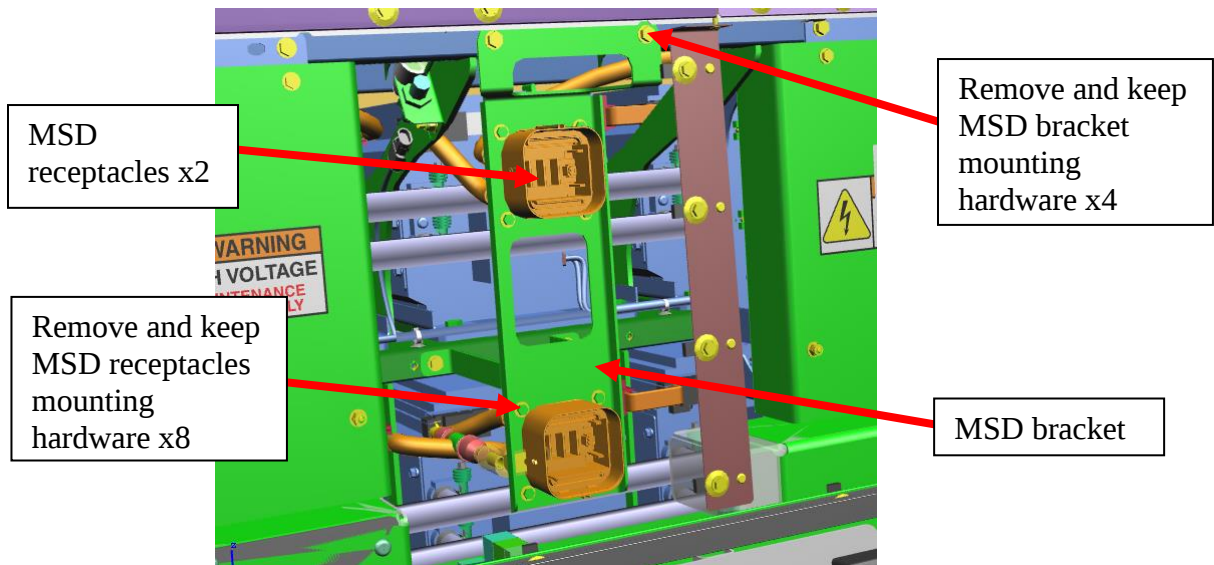

Figure 13: Rear ESS MSD Receptacles and bracket
4.1 Remove and discard MSD receptacles x2 and MSD bracket x2. See figure 13.